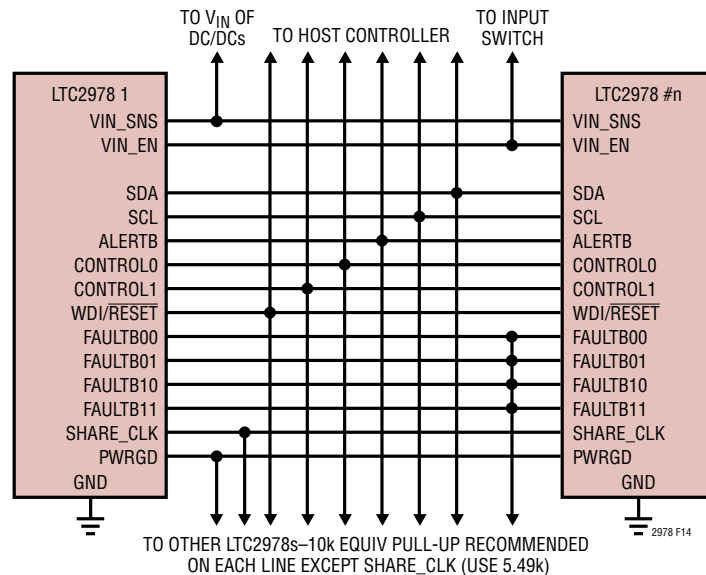
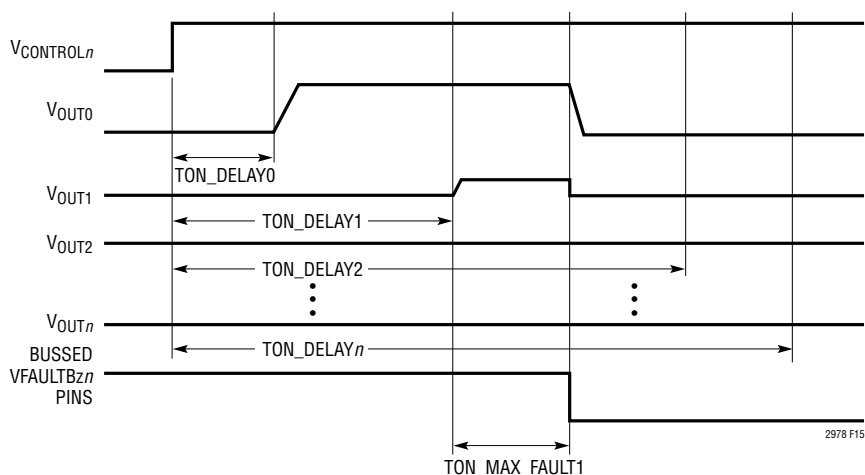

Figure 14. Typical Connections Between Multiple LTC2978s
Figure 15. Aborted On Sequence Due to Channel 1 Short
Figure 14 shows how to interconnect the pins in a typical multi-LTC2978 array.
- Connecting all V_{IN_EN} lines together will allow an overvoltage (OV) fault on any DC/DC converter's output in the array to shut off a common input switch.
- The `FAULTBzn` lines can be connected together to create fault dependencies. Figure 14 shows a configuration where a fault on any `FAULTBzn` will pull all others low. This is useful for arrays where it is desired to abort a startup sequence in the event any channel does not come up (see Figure 15).
- `PWRGD` reflects the status of the outputs that are mapped to it by the `MFR_PWRGD_EN` command. Figure 14 shows all the `PWRGD` pins connected together, but any combination may be used.